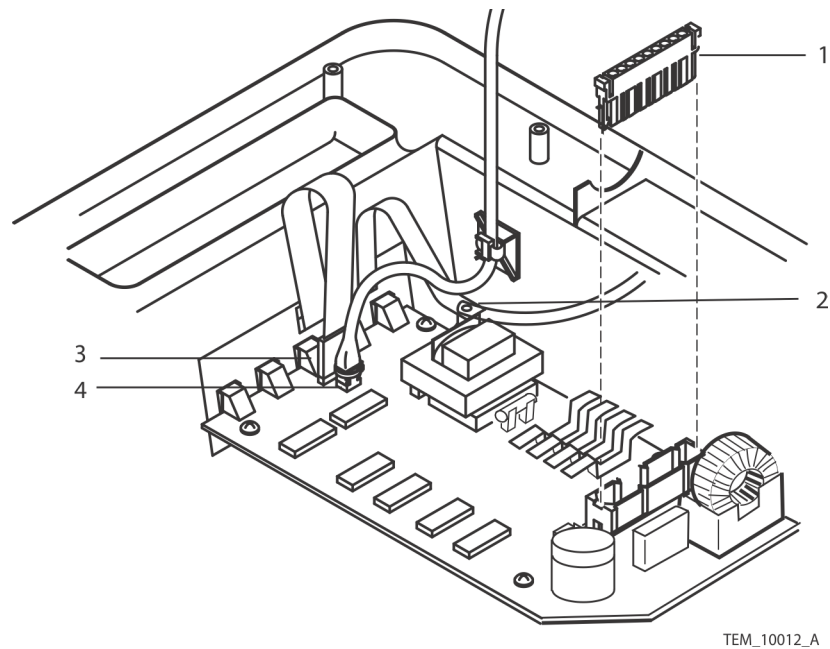

Figure 36. Cable Connections
9. Connect the ribbon cable connector (Figure 36, item 3).
10. Connect the thermistor cable connector (Figure 36, item 4).
12. Connect the 9-pin connector to the Control PCB (Figure 36, item 1).